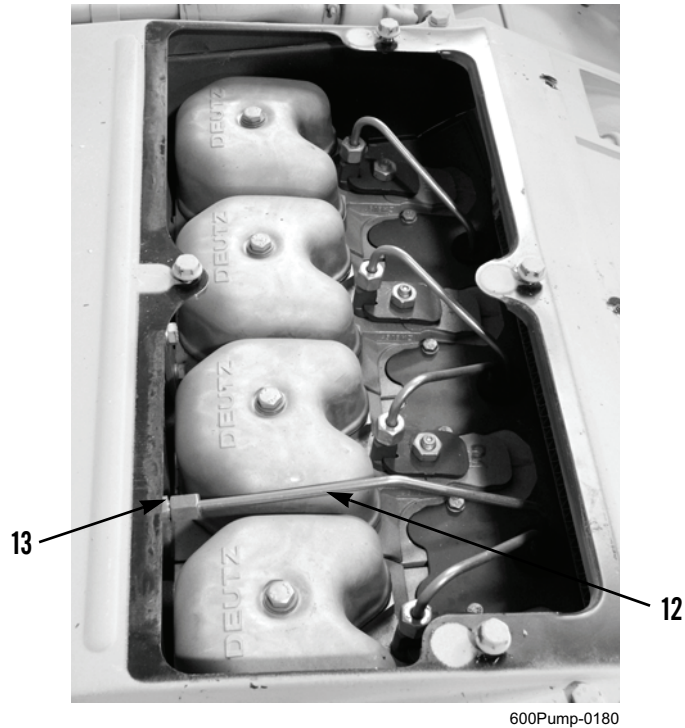

Figure 3. Fuel Injector Line.
3. Disconnect injector line (Figure 3, Item 12) from fitting (Figure 3, Item 13) on intake manifold (Figure 1, Item 1).